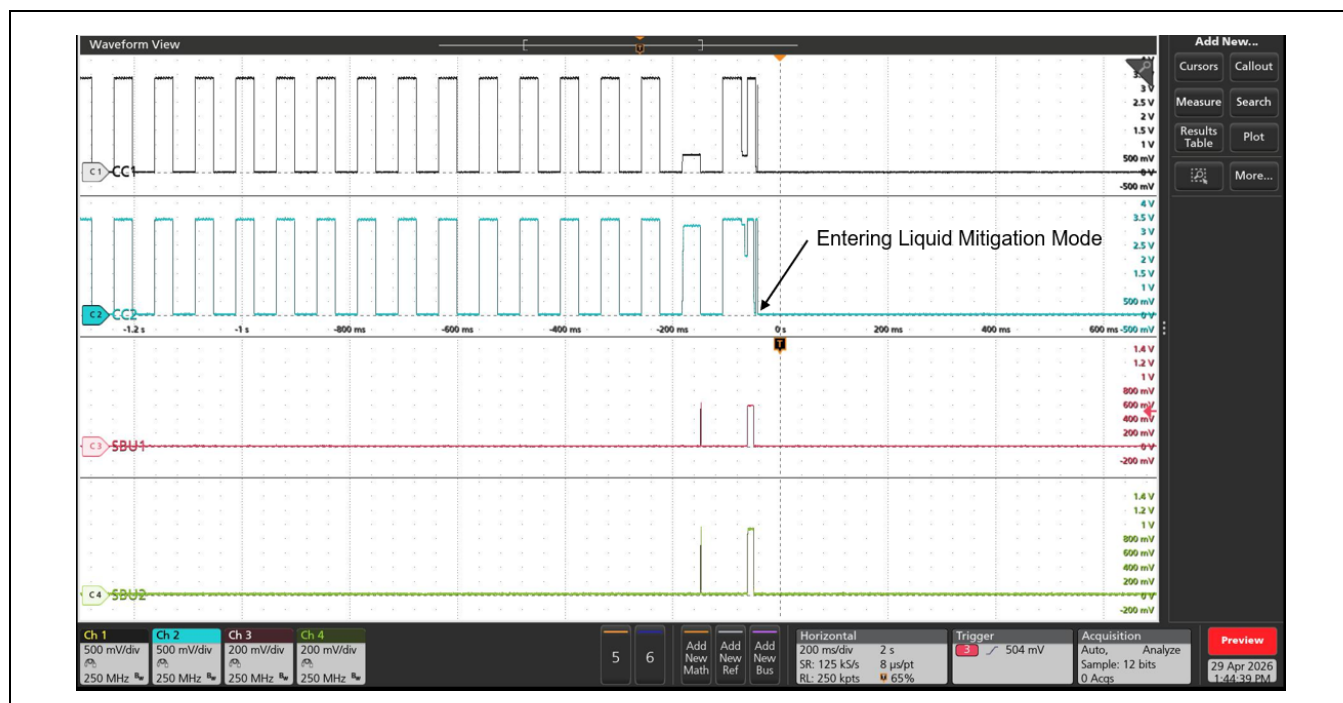

Figure 8. CC and SBU waveforms at entry into corrosion mitigation mode
1. **Mitigation Mode Entry.** Moisture detection runs periodically while the port is unattached and is integrated into the DRP toggle cycle. During each detection cycle, the device applies a low-level current to CC1 and CC2 and compares the resulting pin voltage against the CC moisture threshold. If either CC pin voltage is below the threshold, the device schedules an SBU measurement and compares the resulting SBU1 and SBU2 voltages against the SBU moisture threshold, as shown in Figure 8. When both the CC and SBU measurements indicate a wet condition, the connector is declared wet, and the MAX77978 enters corrosion mitigation mode. The CC and SBU moisture thresholds are independently programmable through the ccWtrSel and sbuWtrSel fields.